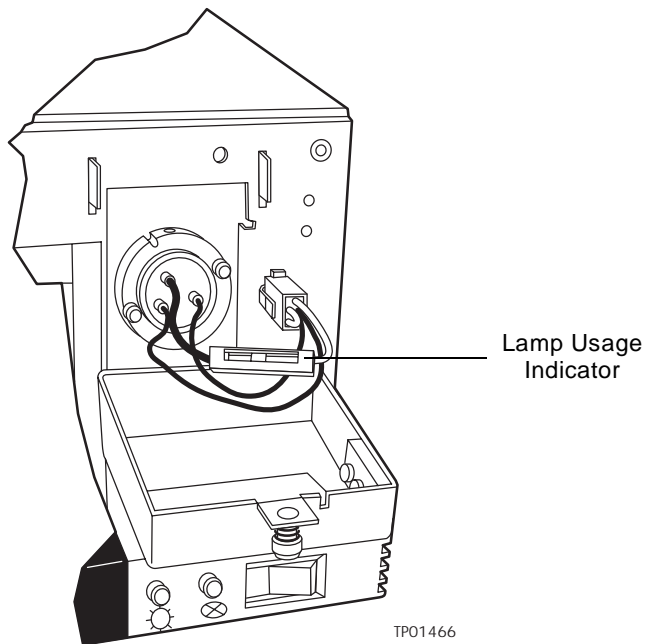

Figure 3-6 Lamp Usage Indicator
4. Examine the lamp usage indicator (Figure 3-6).